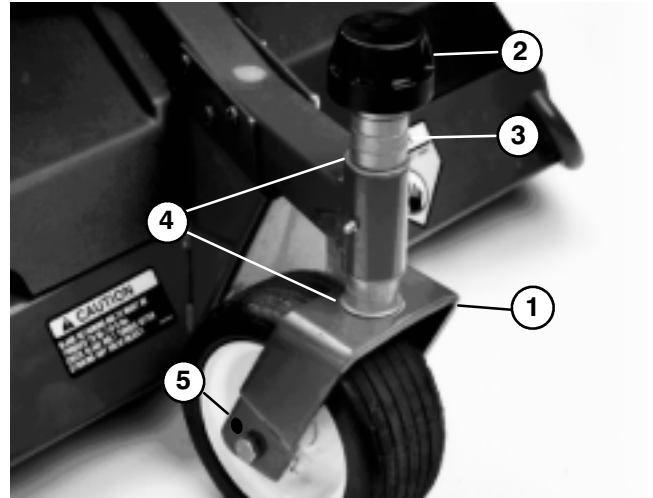

Figure 20
(Fig. 20–21)
- Drill out .438" dia. holes (Fig. 20 & 21) in each side of castor forks to .500" or .516" dia.